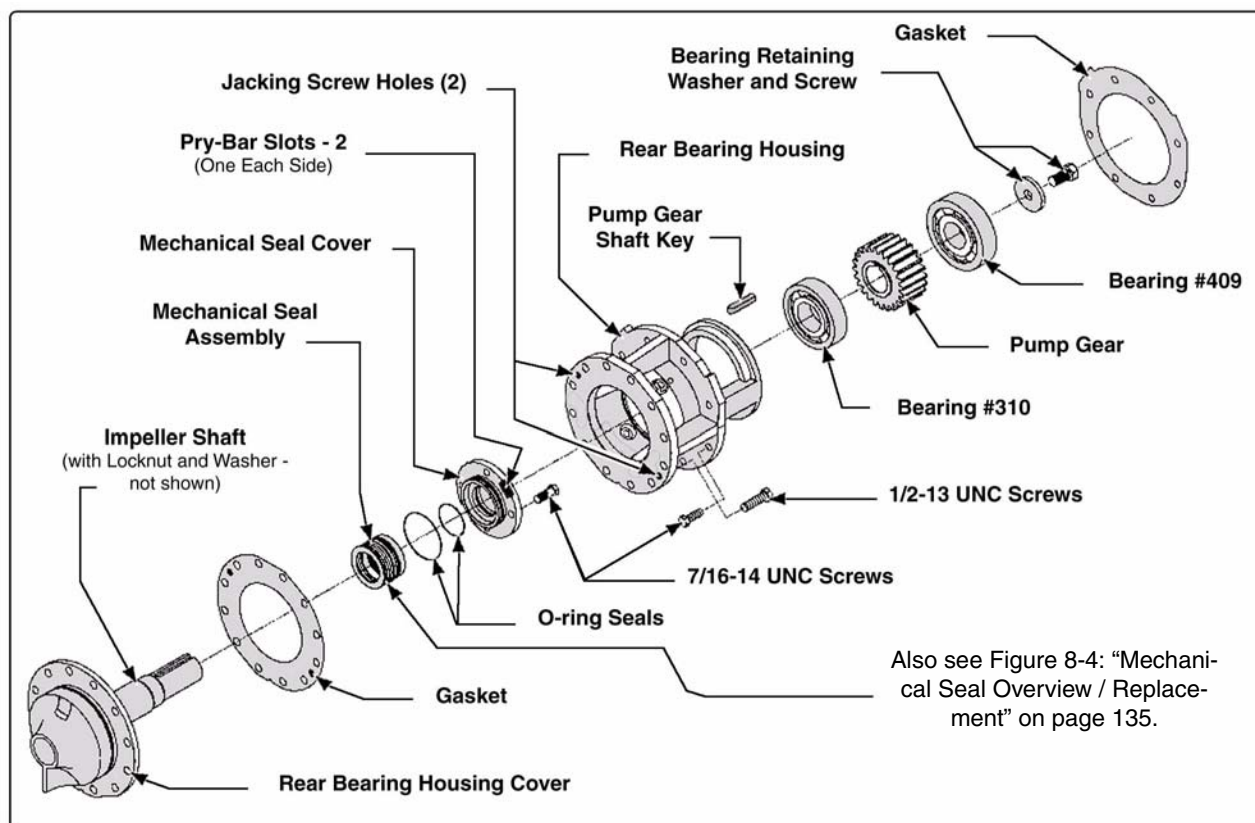

Figure 8-3: Qmax, Qmid, and Qtwo Mechanical Seal Assembly Overview
(See Figure 8-3: “Qmax, Qmid, and Qtwo Mechanical Seal Assembly Overview.”) Also see Figure 8-4: “Mechanical Seal Overview / Replacement” on page 135.
11. If necessary, use pry bars in the slots provided to loosen the mechanical seal cover from the mechanical seal housing. (See Figure 8-3: “Qmax, Qmid, and Qtwo Mechanical Seal Assembly Overview” on page 134.)
11. Slide the mechanical seal cover over the impeller shaft making sure the seal remains seated in the bore of the cover. Make sure there is no oil or grease on the faces of the mechanical seal. (See Figure 8-3: "Qmax, Qmid, and Qtwo Mechanical Seal Assembly Overview" on page 134.)
20. Apply Loctite and insert twelve 1/2"-13 screws to secure the rear bearing housing to the seal housing. Evenly tighten the screws in a staggering (or criss-cross) fashion and torque to 65 ft.-lbs. (88 N-m). (See Figure 8-3: "Qmax, Qmid, and Qtwo Mechanical Seal Assembly Overview" on page 134.)
15. If necessary, use pry bars in the slots provided to loosen the mechanical seal cover from the mechanical seal housing. (See Figure 8-3: "Qmax, Qmid, and Qtwo Mechanical Seal Assembly Overview" on page 134.)